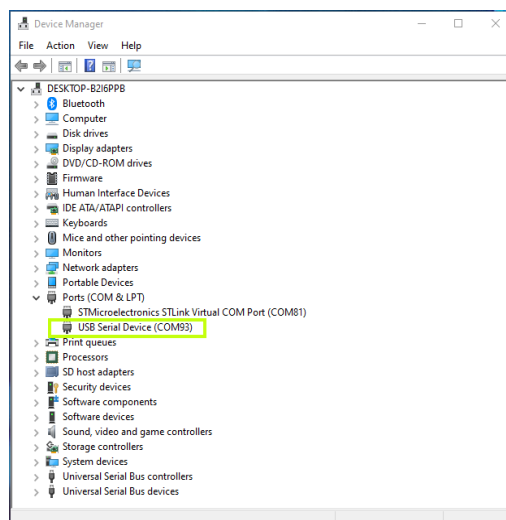

Figure 6: Device Manager
- For first time installation, users should install the USB driver on the computer by installing the STMicro Link Utility. You can check to ensure the USB drivers have been properly installed by opening Windows Device Manager, and looking under “Ports (COM & LPT)”. (see *Figure 6: Device Manager*) Windows should assign two COM ports # to the STMicro Nucleo motherboard. The first COM port is called “STMicroelectronics STLink Virtual COM Port” and the second COM port is called “USB Serial Device (COMxx)”.
- COMx: where x is the COM port assigned by Windows OS (refer to Figure 6 – Device Manager)